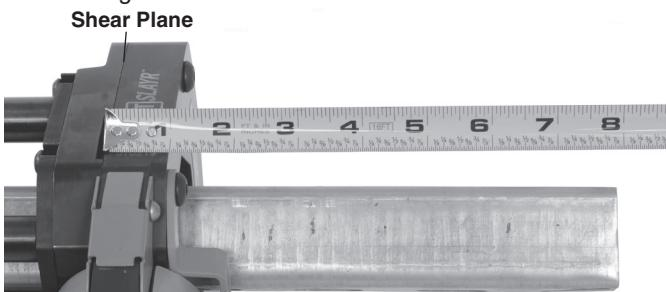

Figure 6A – Measuring Strut Length
- Use the Tape Measure Slot (located on the shear plane) (*Figure 6A*).